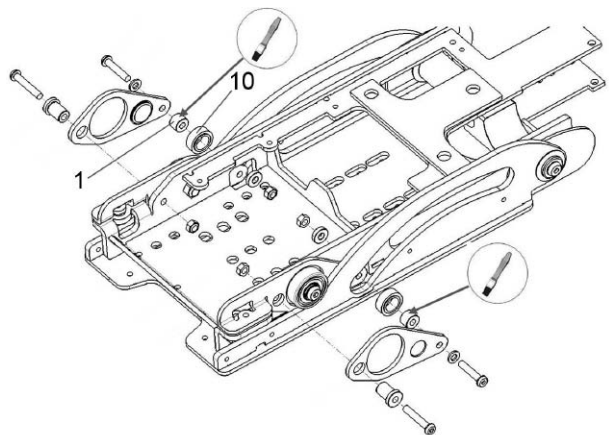

Fig. 24. Lubricate the wheels and sockets before mounting.
12. Lubricate the wheels and sockets before mounting. Mount the wheels (10), sockets (1) and the plates using the associate screws and washers. See fig. 24.